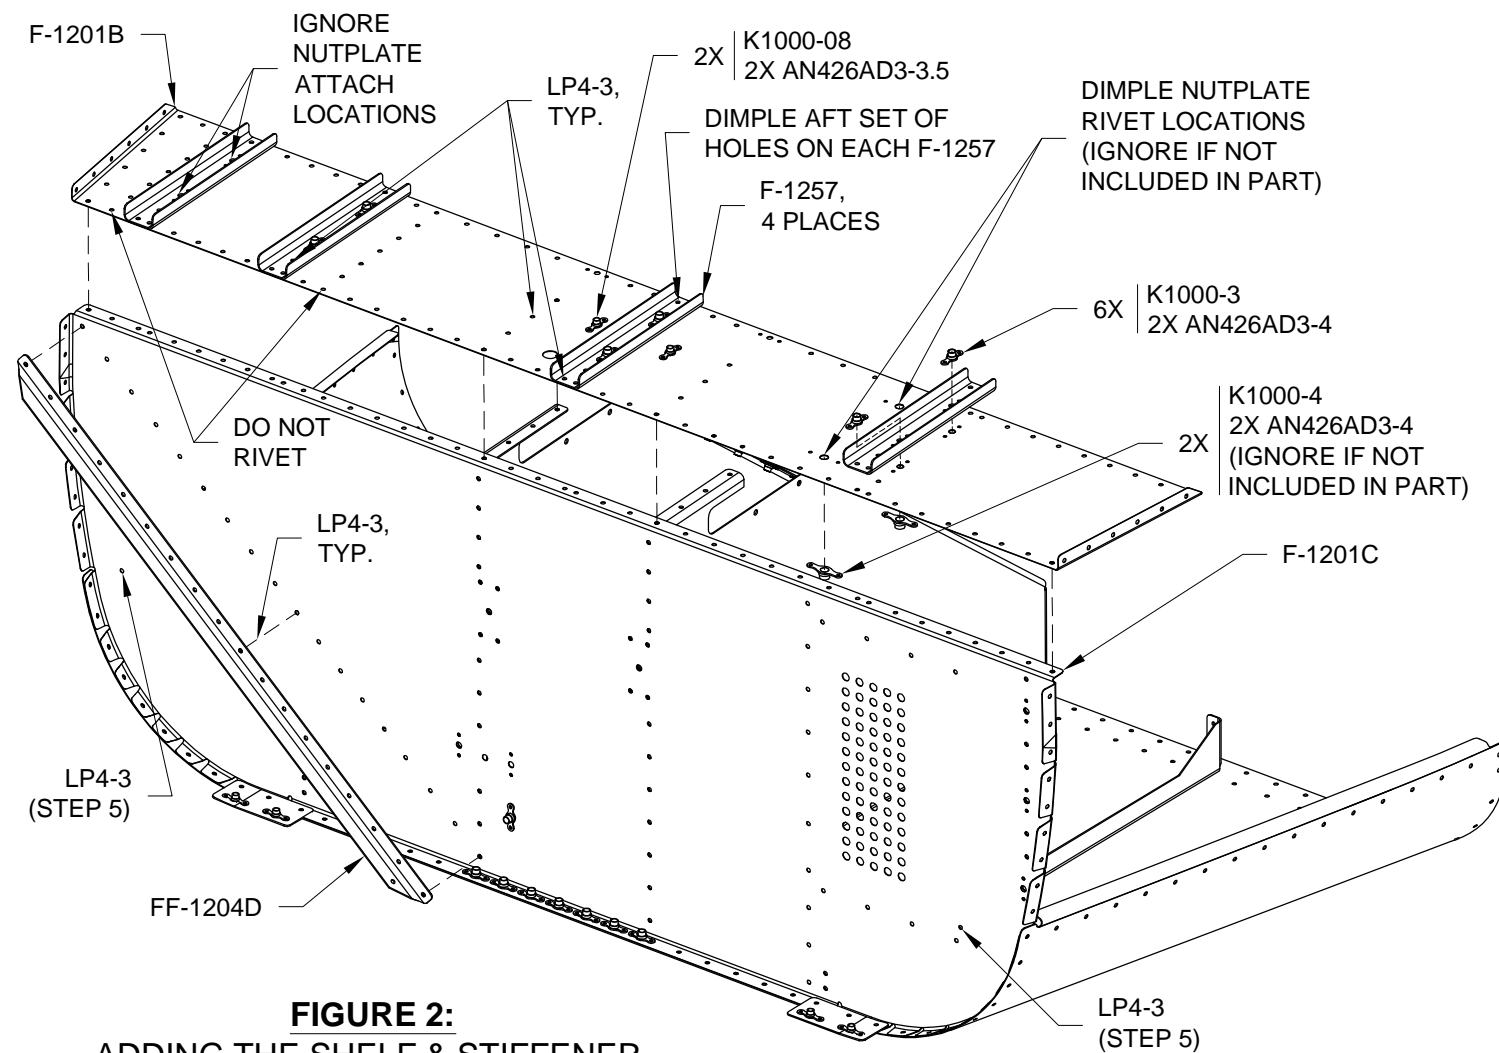

FIGURE 2: ADDING THE SHELF & STIFFENER
Step 5: Fill the tooling holes on the F-1201C Firewall Bottom with blind rivets. See Figure 2.
Step 6: Rivet the FF-1204D Firewall Stiffener to the F-1201C Firewall Bottom per callouts in Figure 2.